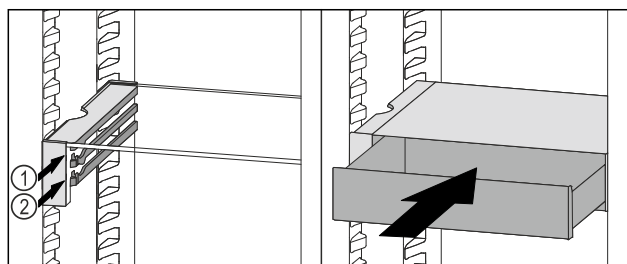

Fig. 134
- Place the VarioSafe drawer behind the stoppers on desired rib *Fig. 134 (1)* or *Fig. 134 (2)*.